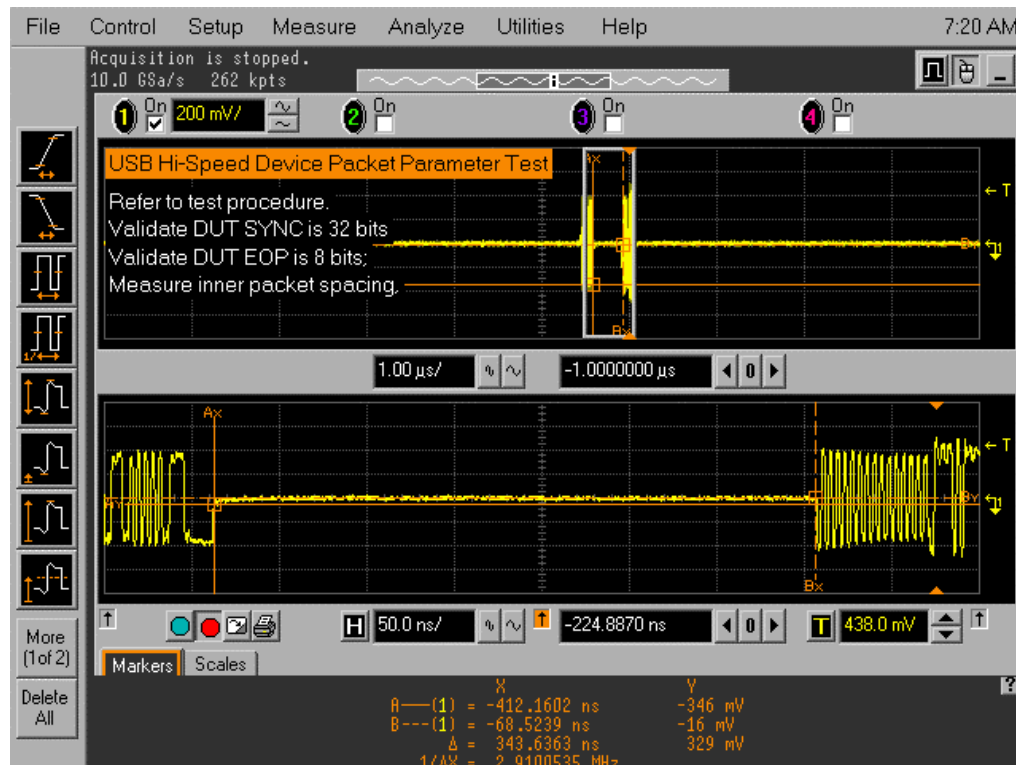

Figure 14. Single Step Set Feature – Second Step
13. The oscilloscope capture should appear as in Figure 14.